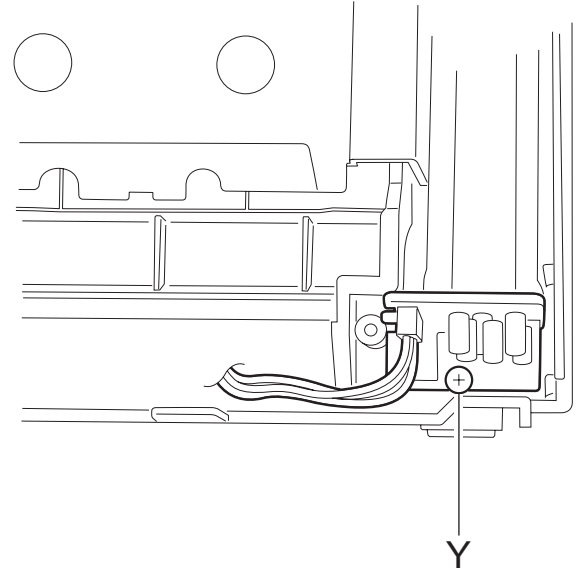

Fig.35
2.2.3 Removing the MIC board (See Fig.35, 36)